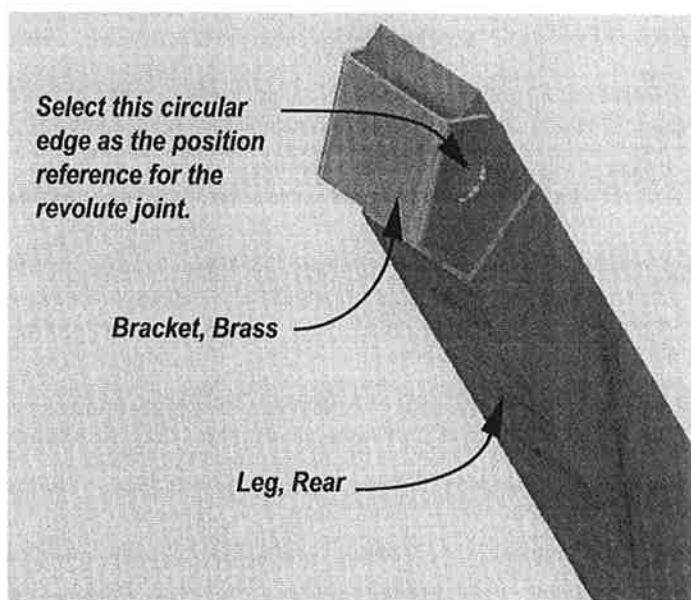

Figure 16–38
1. Create a new Revolute as-built joint between the Bracket, Brass and Leg, Rear components, as shown in Figure 16–38. For now you will permit a full 360° rotation, even though there is interference. This will be controlled later in the practice.
3. Create additional Revolute as-built joints between the following components and rename the created joint as shown below and in Figure 16–39. Ensure that a circular reference that defines the axis of rotation is selected as the *Position* reference.